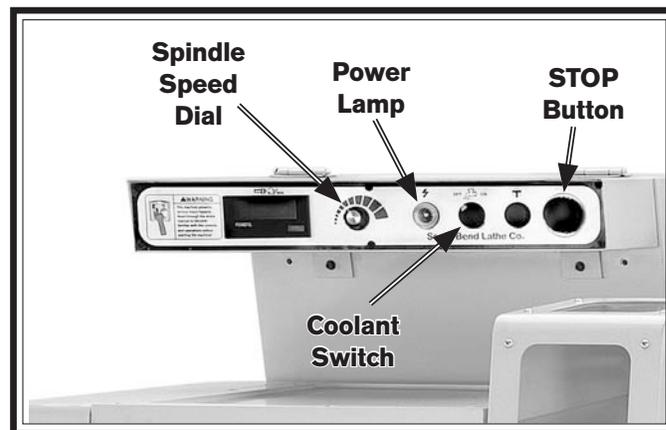

Figure 25. Control panel.
5. Push the STOP button on the control panel (see **Figure 25**), then rotate the spindle speed dial all the way to the left to set the spindle speed at the lowest setting.